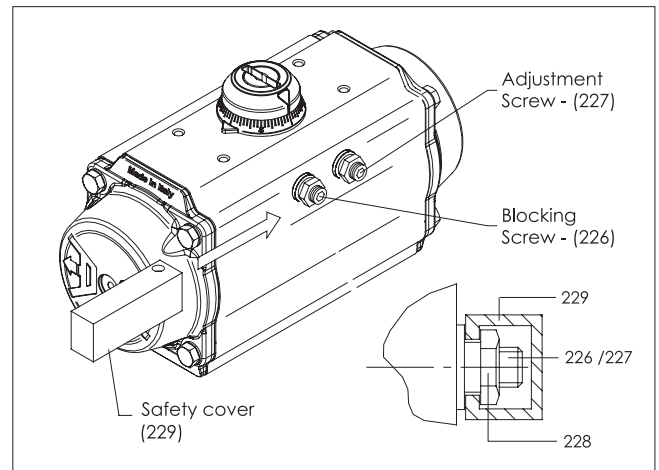

Figure 22.
- A. Insert the Safety Cover (229) between the Special Nuts (228) and Washer (03) as shown in (Figure 22).
- B. Then insert in the hole of the Safety Cover the Padlock (230) and lock it.